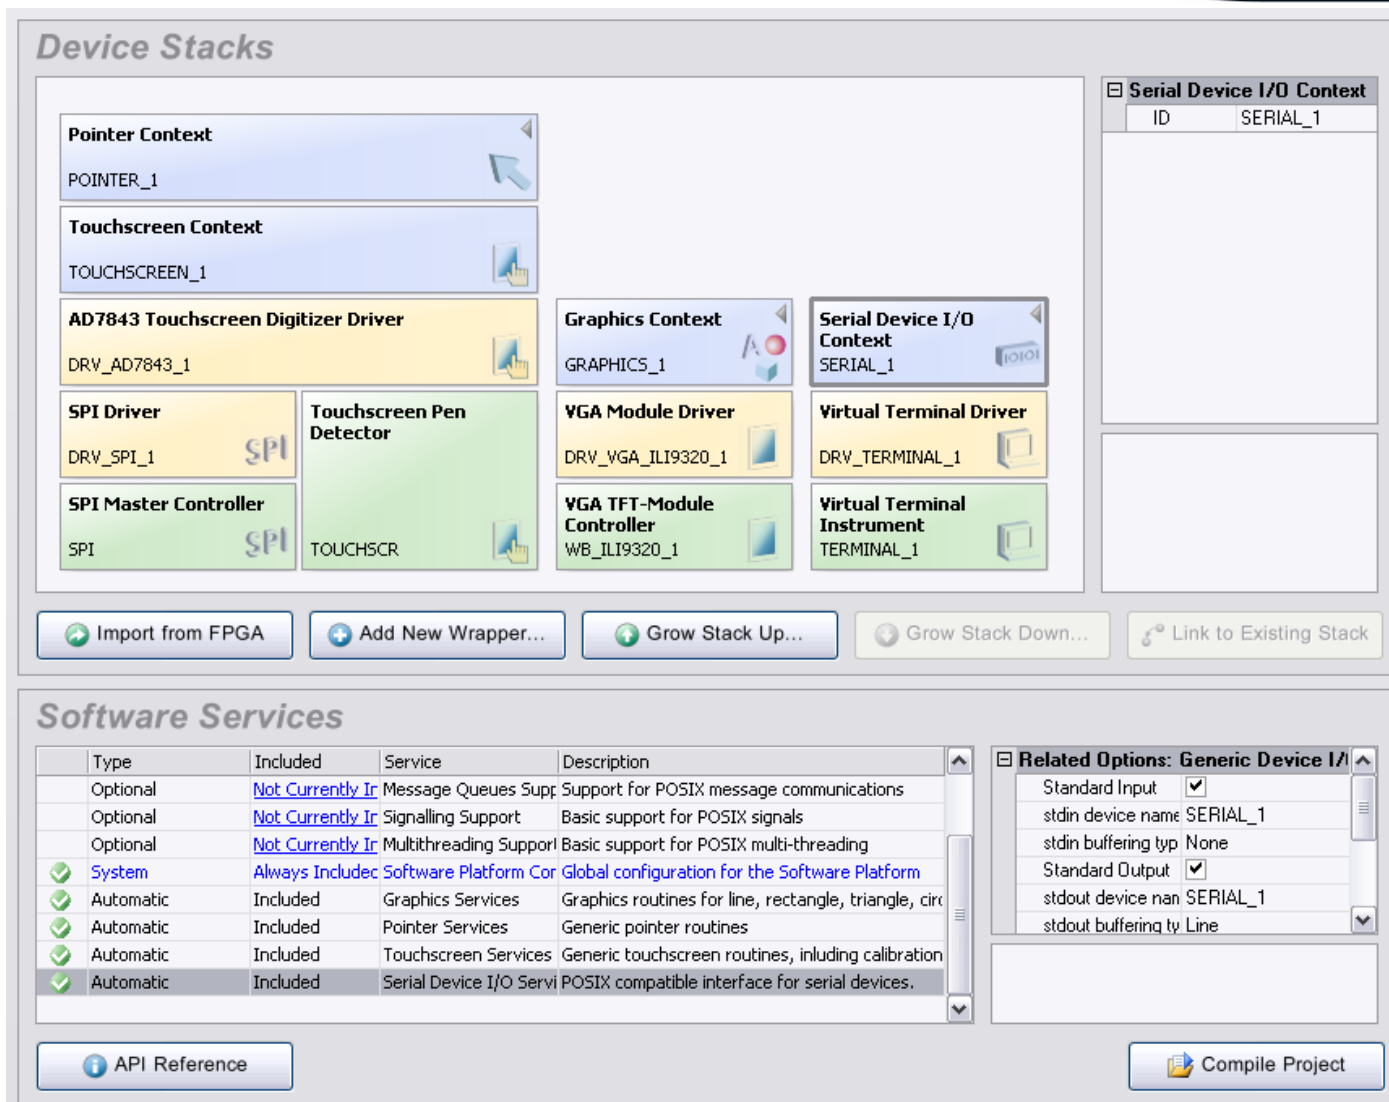

Figure 3. Software Platform for the TFT\_TOUCH design.
16. In the `TFT_TOUCH.SwPlatform` document, import the C code wrappers from the FPGA project, and grow the software stacks up to contain the Graphics, Pointer and Serial IO services. It should look like Figure 3.
- Select the **Serial Device I/O Context** and note its ID. Then in the **Software Services** (lower) pane of the TFT\_TOUCH.SwPlatform file select **Serial Device I/O Services**. Check the boxes and link **Standard Input**, **Standard Output** and **Standard Error** to the SERIAL\_1 device (Terminal Instrument). This allows you to use C Standard IO `printf()` to put text on the terminal in Altium Designer. It should look like Figure 3.